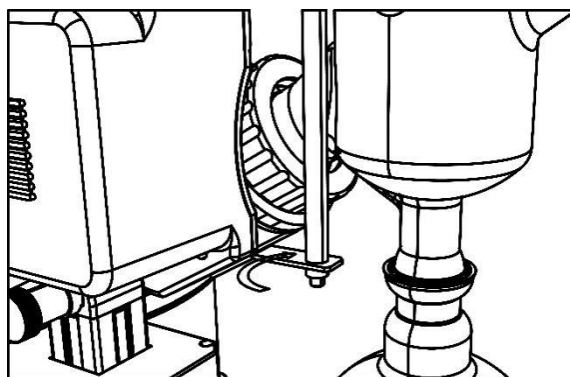

Fig. 18
- Mount the fixing device for the vertical condensation glass assembly (Fig. 18)